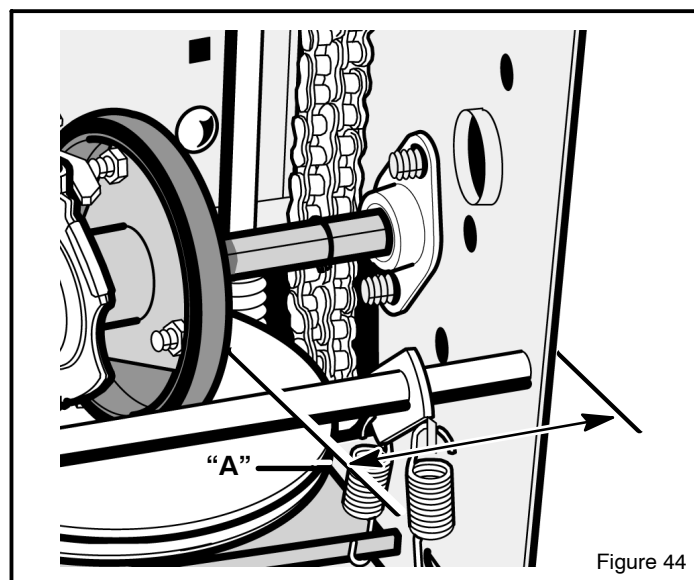

Figure 44
6. Note the position of the **friction wheel** (see Figure 44). The correct distance "**A**" from the right side of the **friction wheel** to the outside of the motorbox is as follows:
3. Move the **friction wheel** to the correct position (see Figure 44).